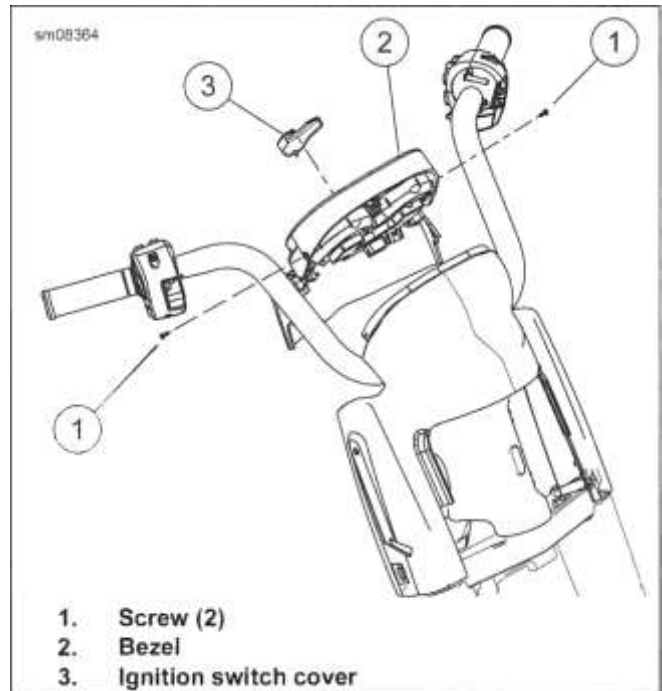

Figure 3-116. Remove Instrument Bezel
1. See Figure 3-116. Lift rear of ignition switch cover (3). Remove cover.
3. Lower bezel (2) assembly into place.
4. See Figure 3-116. Install screws (1) on each side of bezel. Tighten